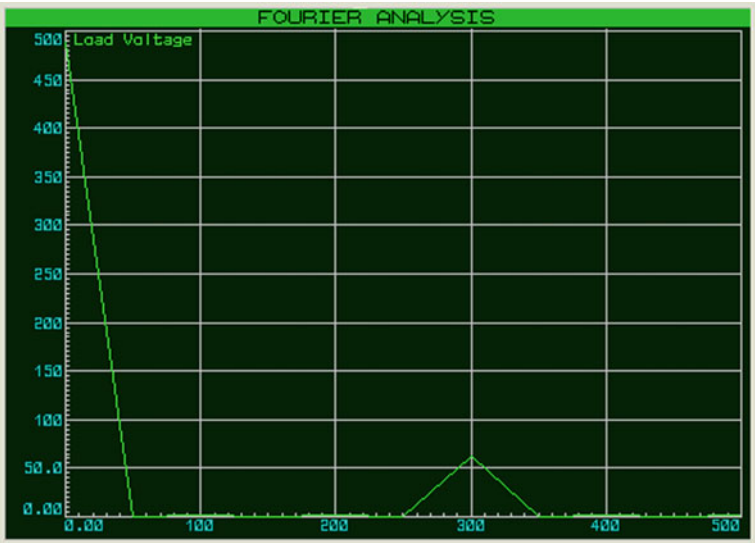

Fig. 4.73 Simulation result
Run the simulation. The simulation result is shown in Fig. 4.73. Maximize the graph to read it easily. The value of this graph at 0 Hz (DC) is 488 V which is quite close to the correct value shown in Fig. 4.60.